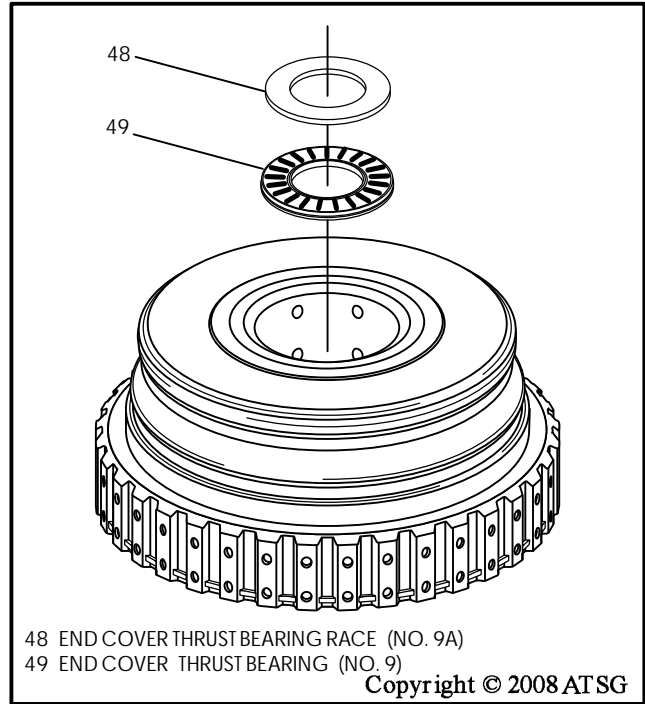

Figure 144
24. Turn the high and reverse clutch housing over, as shown in Figure 144, and install number 9 thrust bearing and number 9A thrust bearing race, retain with a small amount of Trans-Jel®.